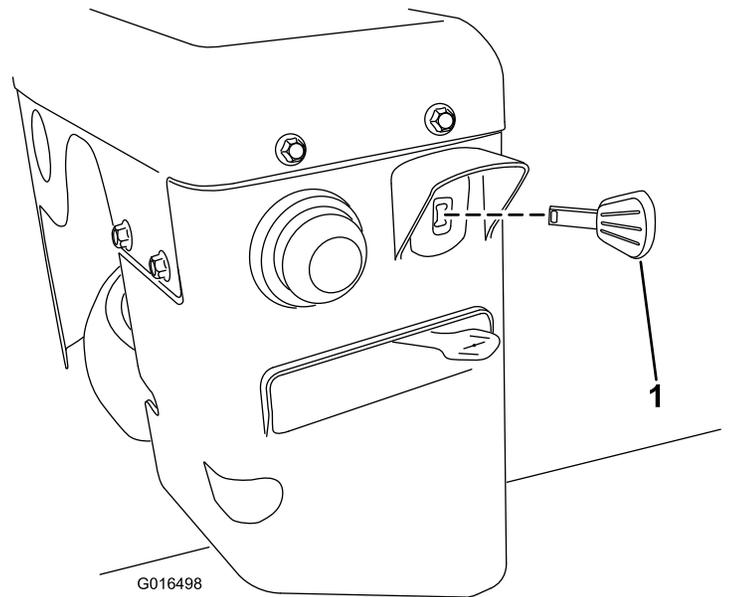

Figure 28
3. Insert the ignition key all the way in (Figure 28).